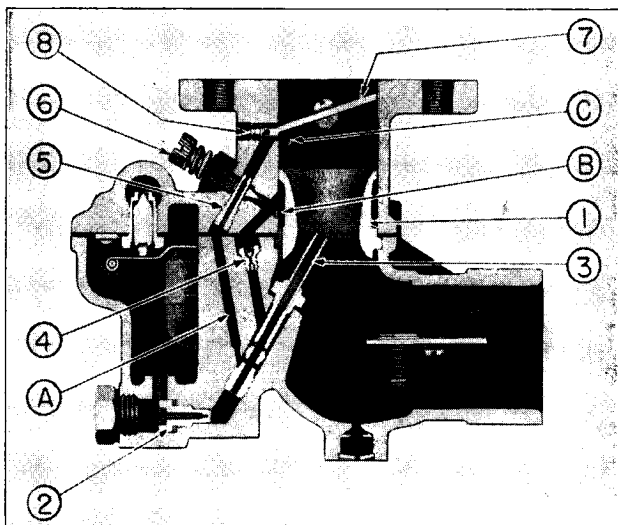

Figure 1
2. Remove idling adjusting screw (6 Figure 1) and spring.
6. Remove the venturi (1 Figure 1).
11. Remove idling jet (5) using a small screwdriver ($\frac{3}{16}$ " blade).
15. Remove the well vent (4 Figure 1) using a small screwdriver ($\frac{3}{16}$ " blade).
16. Remove main discharge jet (3) and gasket using C161-25 Service Tool.
2. Install air shutter plate screws and lockwashers. Be sure air shutter valve is in correct position as shown in Figure 1 and that the air shutter plate is properly centered before tightening the screws securely.
7. Replace main jet (2) and new gasket using C161-1 Service Tool.